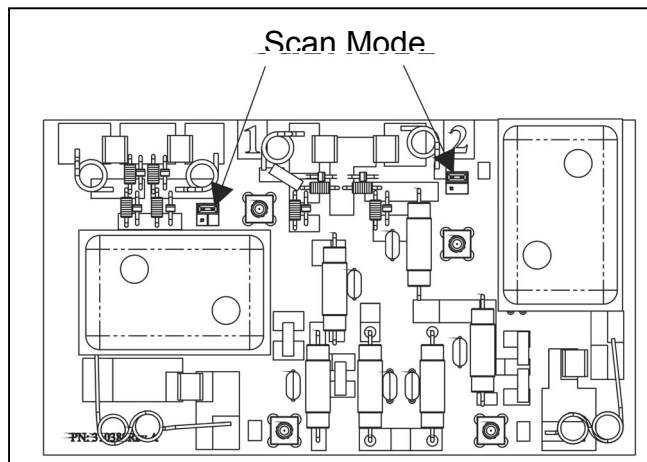

Figure 11: Jumper position for scan mode.
13. Put the test jumper of channel 1 to the original scan mode position (see *Figure 11*).
8. Put test jumper of channel 2 to the original scan mode position (refer to *Figure 11*).
7. Remove the test cable and put the test jumper of channel 5 to the original scan mode position (refer to *Figure 11*).
1. Check that all jumpers are in Scan Mode position (refer to *Figure 11*).